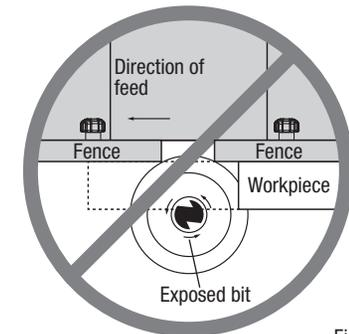

Fig. 1
- The front of the bit is exposed during the cutting operation (Fig. 1).
- The bit can “climb-cut,” where the bit enters the workpiece in the same direction as the feed direction. This is likely to cause the workpiece to “climb” away from the tabletop and may lead to loss of control during operation (Fig. 1).